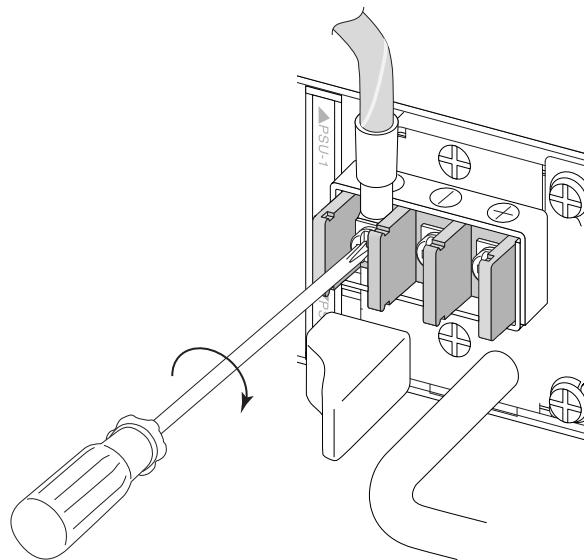

Figure 275: Securing the Ground Wire
- c. Tighten the screw to 7 in-lb (0.79 N m) as shown in Figure 275.